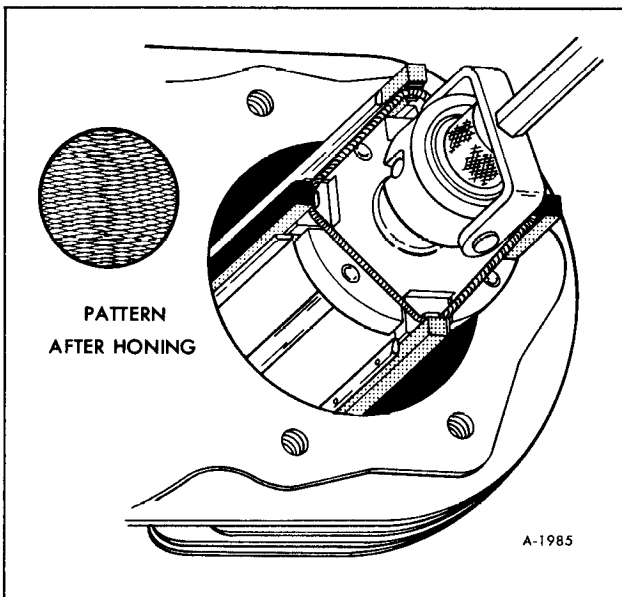

Figure 9–Reboring Cylinder with Hone
**CYLINDER REBORING PROCEDURE:** (figure 9) While most commercially available cylinder bores can be used with either portable drills or drill presses, the use of a low speed drill press is preferred as it facilitates more accurate alignment of the bore in relation to the crankshaft crossbore. Reboring is best accomplished at drill speed of about 600 RPM. After installing coarse stones in hone, proceed as follows.